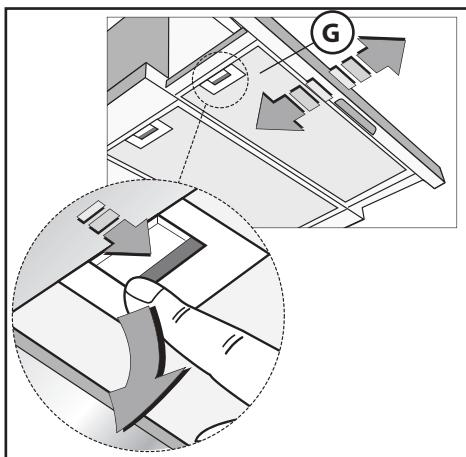

Fig.10
- If the cooker hood is installed above a glass ceramic or induction hob, the minimum distance between the hob and the hood is **45cm**. For gas stoves the minimum distance is **65cm**. If a connection tube composed of two parts is used, the upper part must be placed outside the lower part. Do not connect the cooker hood exhaust to the same conductor used to circulate hot air or for evacuating fumes from other appliances generated by other than an electrical source. Before proceeding with the assembly operations, remove the anti-grease filter(s) (Fig.10) so that the unit is easier to handle.